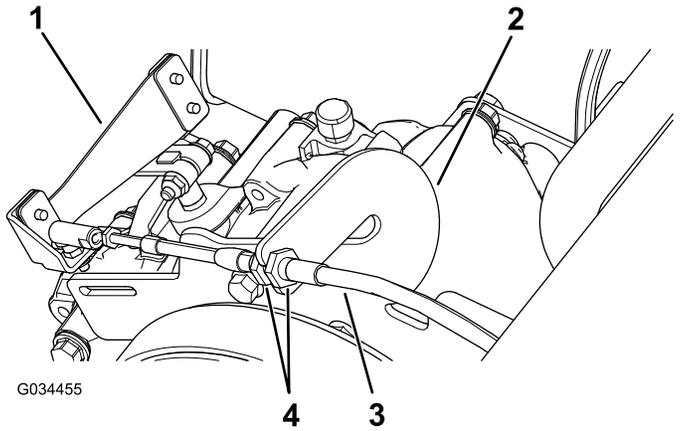

Figure 60
1. Loosen the jam nuts on the gear-shift cable and adjust them as necessary (Figure 60).
2. Test the gear-shift position by rotating the gear-shift selector to the 3 different positions and check to see if the shift lever (Figure 60) shifts properly when shifting the gears; refer to Gear-Shift Lever and Gear-Shift Indicator (page 11).